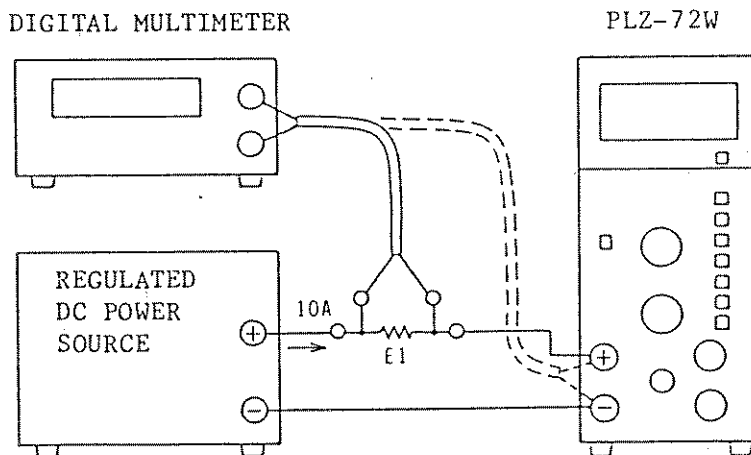

Figure 4-3-1
Calibrate the digital meter as an ammeter at first. Prepare a test setup as shown in Figure 4-3-1. Turn on the power and allow a stabilization time of approximately 30 minutes before starting calibration.
- (a) Prepare a test setup as shown in Figure 4-3-1. Set the loading current at 12.00 A and allow a stabilization period of approximately 30 minutes.